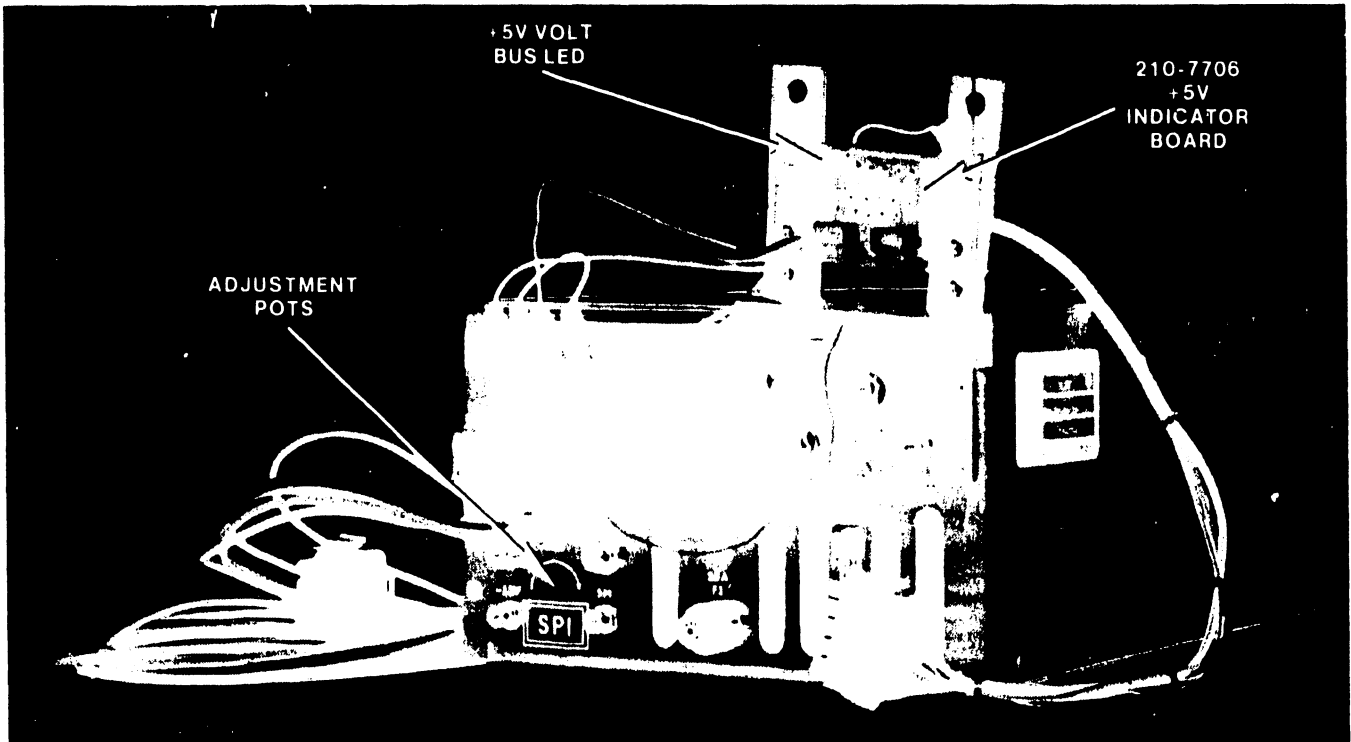

Figure 4-8. Switching Power, Inc. Switching Power Supply
2. Adjust the voltages to the test point readings (below) using the potentiometers on the front of the switching power supply (figures 4-8 through 4-11).